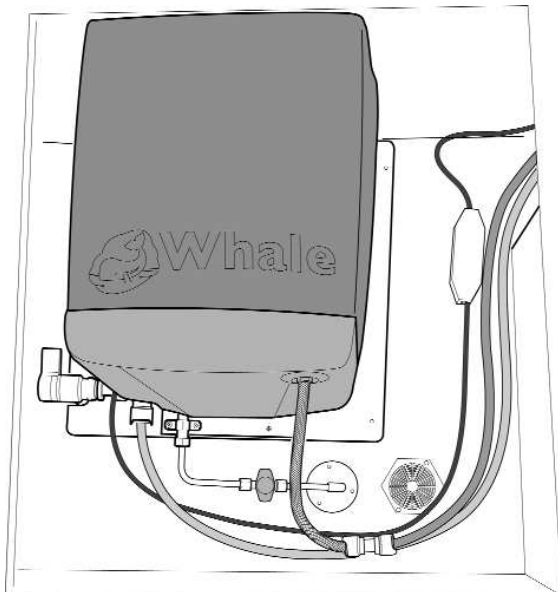

Fig. 27
Step 14 Completed installation (see Figs. 27 & 28)